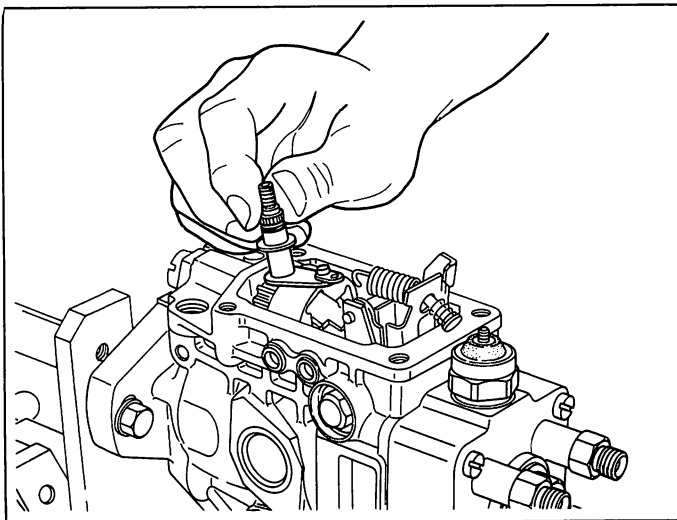

**Fig. 8 Removing the governor cover**
9. Screw the inserter (157829-0720) onto the control shaft (67/2). Next, lift and separate the governor cover from the control shaft, while holding the control shaft with the inserter. (Fig. 8)